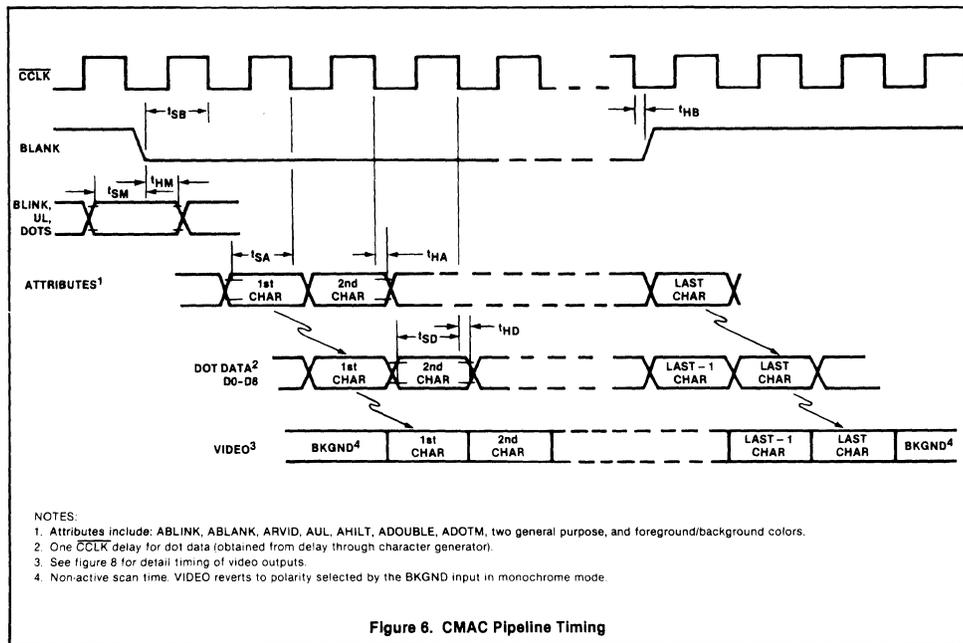

Figure 6. CMAC Pipeline Timing
- See figures 6, 7, 9, and 10.